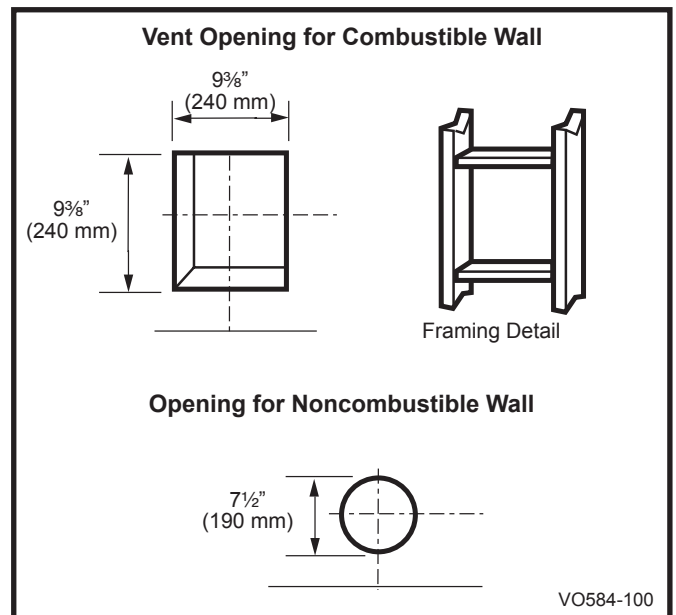

Fig. 23 Locate vent opening on wall.
Locate vent opening on the wall. It may be necessary to first position the fireplace and measure to obtain hole location. Depending on whether the wall is combustible or noncombustible, cut opening to size. (Fig. 23) For combustible walls first frame in opening. (Fig. 23)
Combustible Walls: Cut a 9 3/8" H x 9 3/8" W (240 x 240mm) hole through the exterior wall and frame as shown in Figure 23.
Noncombustible Walls (Fig. 23): Hole opening must be 7 1/2" (190 mm) in diameter.
1. Establish vent hole through the wall. (Fig. 23)